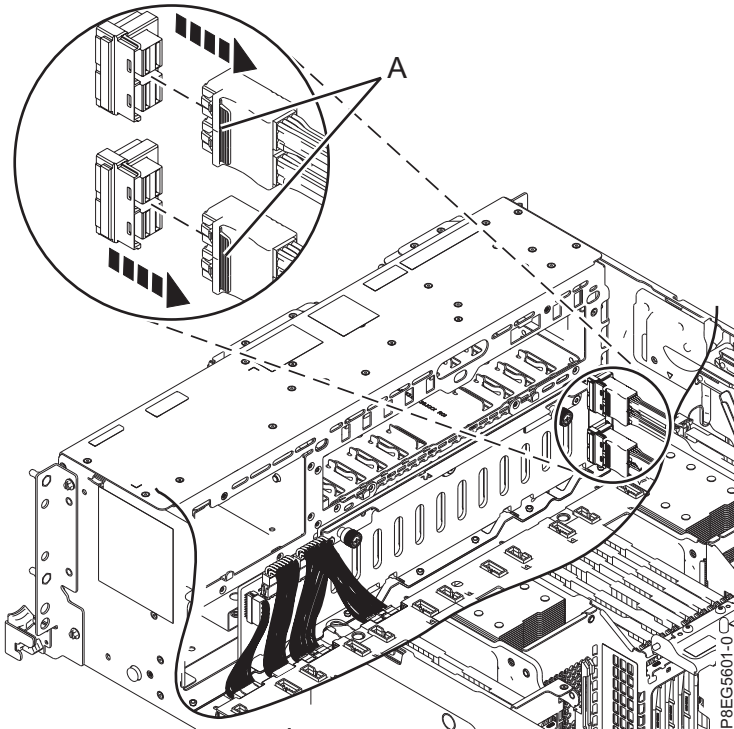

Figure 3. Disconnecting the front SAS cables
5. Label the front SAS cables, paying attention to the connectors each cable attaches to on the disk drive backplane and the SAS RAID internal adapter. Disconnect the front SAS cables from the disk drive backplane by pressing the latch (A) and unplugging the cable as shown in Figure 3 on page 8.